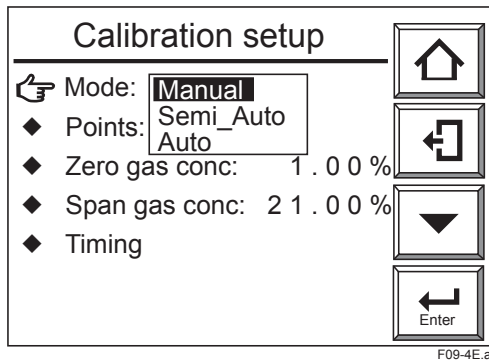

Figure 9.4 Calibration Setup display
- (1) Select the [Setup] key from the Basic panel display to display the Execution/Setup display. Then select "Maintenance" from the Execution/Setup display.
- (2) Select "Calibration setup" from the Maintenance display. Then select "Mode" from the Calibration setup display (see Figure 9.4).